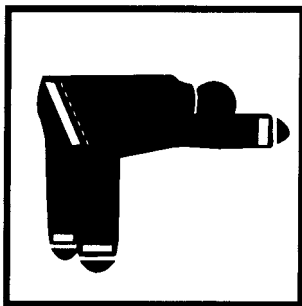

FIG. 5B
B. NFPA 1500 Standard Position B (**FIG. 5B**). While standing with your hands together and reaching overhead as far as possible, bend forward to a 90° angle, to the left or right and backward. The inner liner of the coat must overlap the top of the trousers by no less than 2 inches (5 cm).